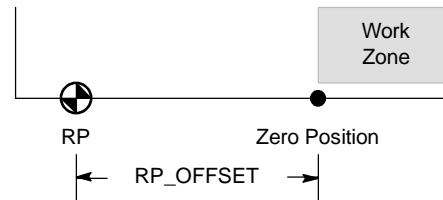

Figure 9-15 Relationship Between RP and Zero Position
- The Position Control wizard provides advanced reference point options that allow you to specify an RP offset (RP\_OFFSET), which is the distance from the RP to the zero position. See Figure 9-15.